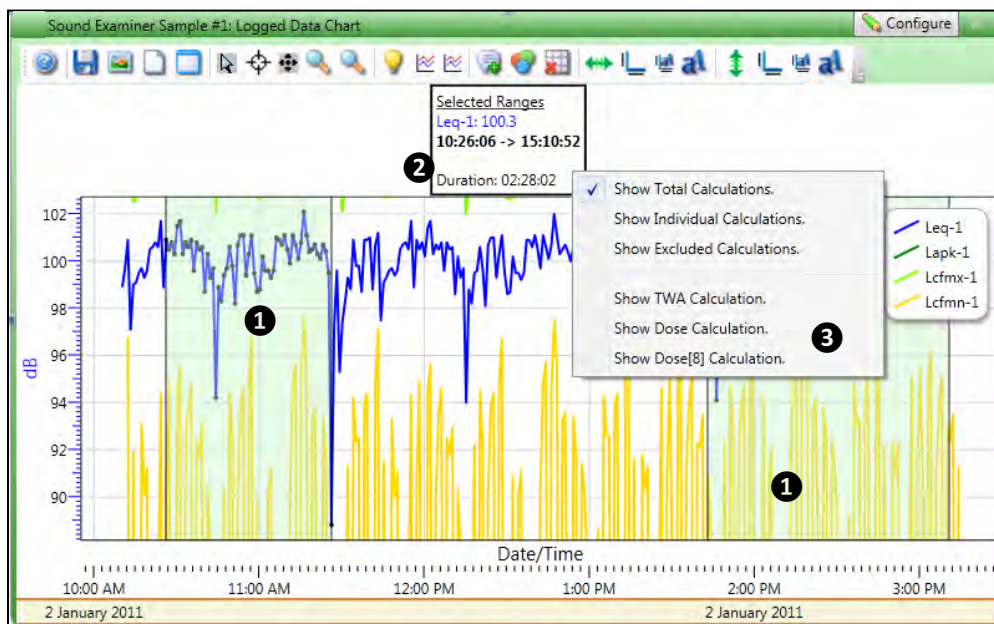

Figure 1-118: SE-400 Series and logged data chart
- Shading will appear over the selected data range (see **1**, Figure 1-118).
- A calculation box will appear (see **2**, Figure 1-118) above the chart showing the calculations.
- To change which options and additional calculations are displayed in the calculation box, right-click on the box and a context menu will appear (see **3**, Figure 1-118). Select your desired options: Show Total Calculations (a combined calculation of all selected ranges), Show Individual Calculations (an individual calculation for each selected range), and/or Show Excluded Calculations (a combined calculation of all non-selected ranges). Select your desired additional calculations: Show TWA Calculation, and/or Show Dose Calculation Show Dose[8] Calculation.